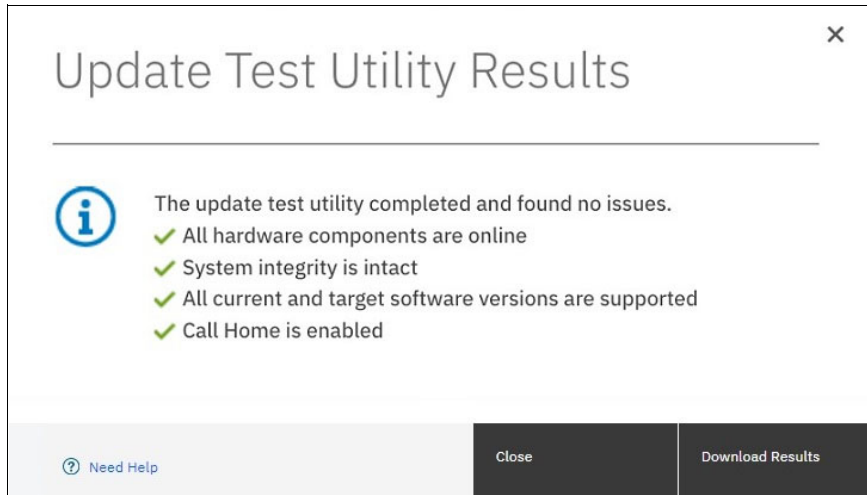

Figure 10-5 IBM FlashSystem Upgrade Test Utility completion panel
4. Click **Test**. The test utility verifies that the system is ready to be updated. After the Update Test Utility has completed, you will be presented with the results. The results will either state that there have been no warnings or problems found, or will direct you to details about known issues which have been discovered on the system. Figure 10-5 on page 429 shows a successful completion of the update test utility.